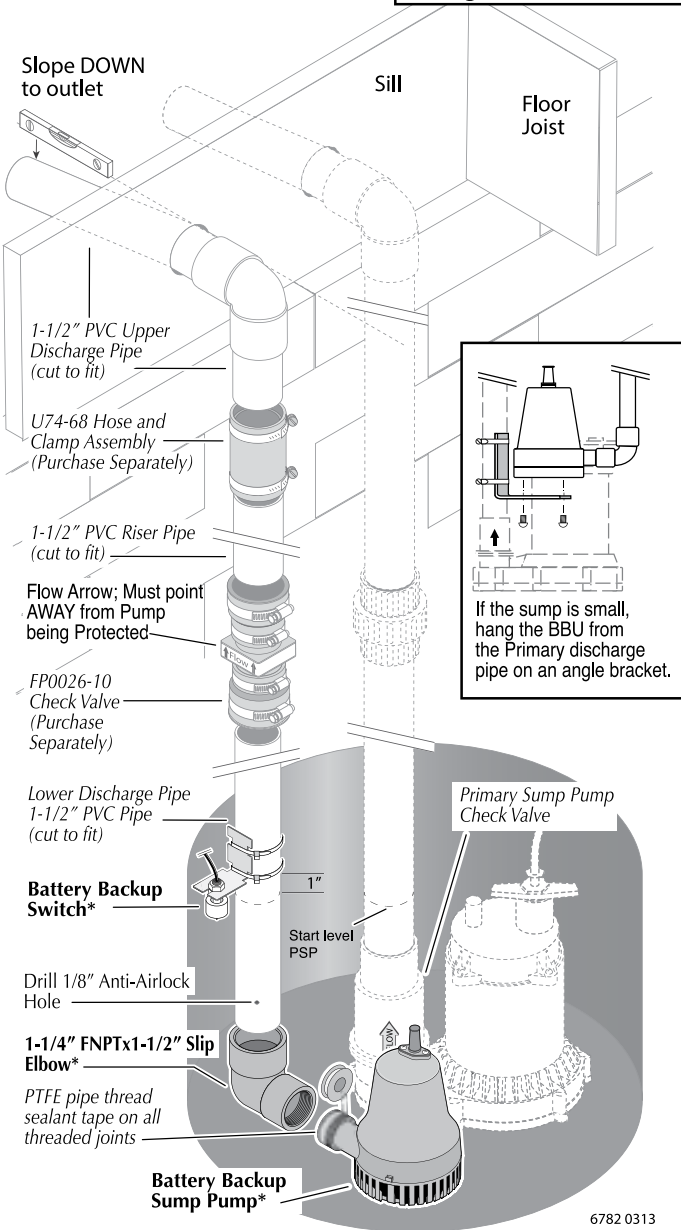

Figure 2: Typical installation with separate discharge pipes.
**NOTICE:** Study pages 4-6 to determine which installation method will be best for you. The "Separate Discharge" (Figure 2, Page 4), installation is recommended.